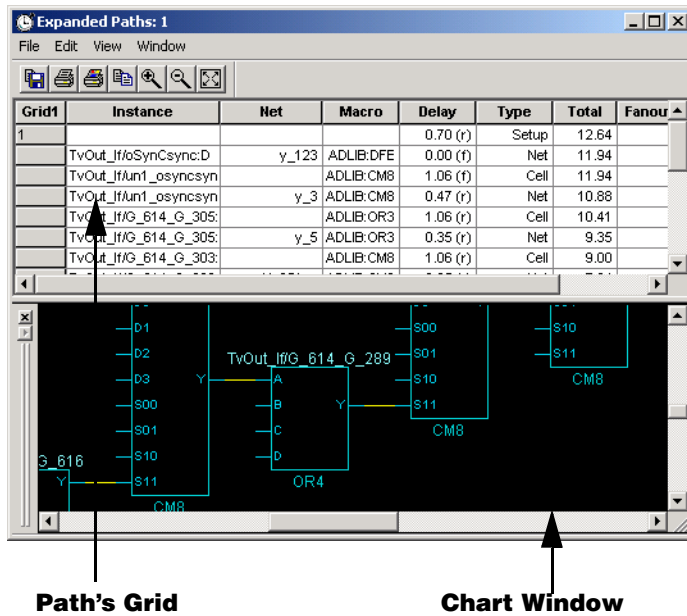

Figure 3-6. Expanding the Path
- 5. **Expand a path.** Double-click a path in the lower paths grid. The Expanded Paths window opens, as shown in Figure 3-6.